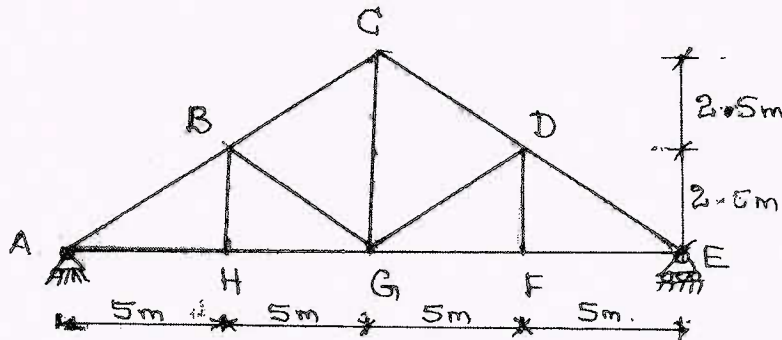

Fig.Q3
- 3 The centre line of a roof truss is as shown in Fig.Q3. The magnitude and nature of forces under service conditions are :
- 3 The details of manhole is given in Fig.Q3. Find its quantities of the following items: